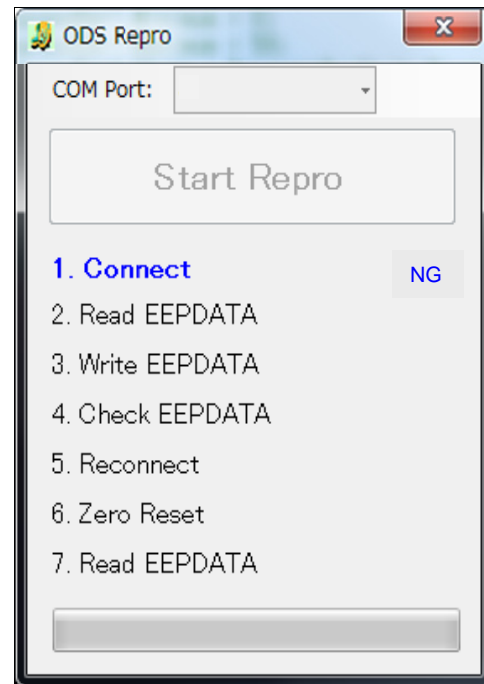

Figure 12
- If the OCS reprogramming stops (displays NG) at item 1, 2, 3 or 4, refer to Figures 12 through 15 on pages 12 and 13.
- Figures 12 through 18 on pages 12 through 15 are provided as reference if the OCS reprogramming stops (displays NG) at one of the items (1-7).